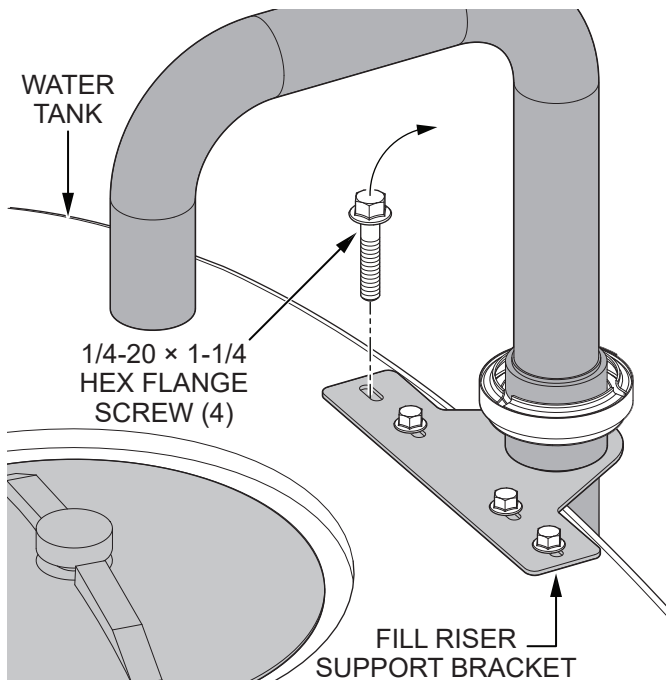
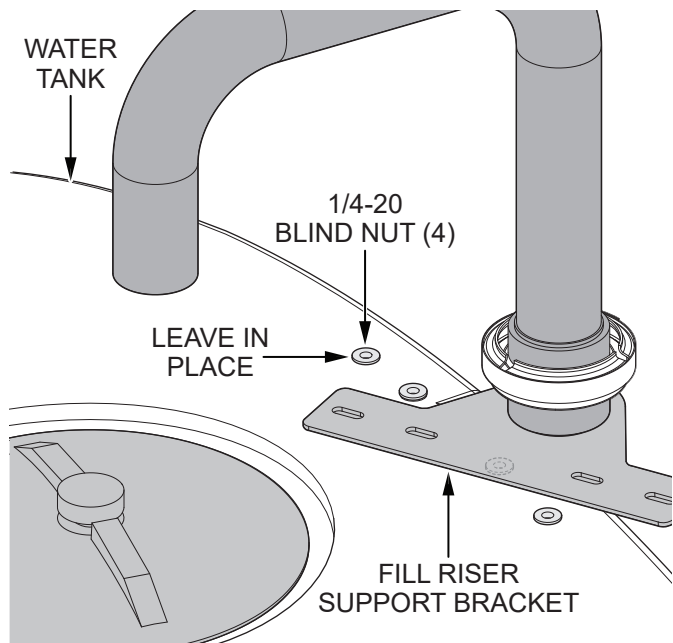

Figure 3. Remove Hex Flange Screws (Front Of Tank)
Figure 4. Fill Riser Support Bracket Blind Nuts (Leave In Place)
1. Remove the **four 1/4-20 × 1-1/4 hex flange screws** (Figure 3) securing the **fill riser support bracket** to the **water tank**. Leave the **four 1/4-20 blind nuts** (Figure 4) in place. Save the screws for re-use later in the procedure.